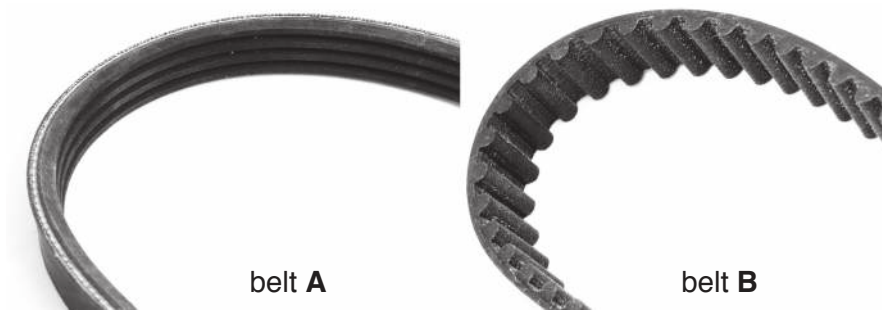

Fig. 13
- (c) Mechanisms can use belts to transfer motion from one shaft to another. Fig. 13 shows two types of drive belt.